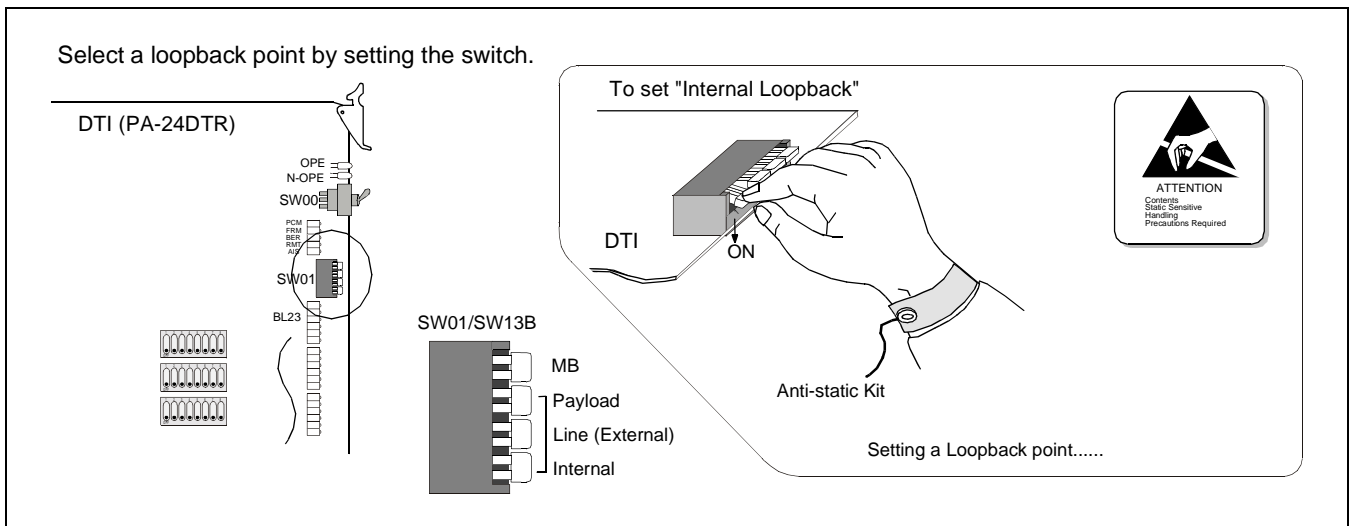

Figure 6-6 Loopback Point Designation
STEP 2: Select an appropriate loopback point by setting the switch (SW01/SW13B). Refer to Figure 6-6.